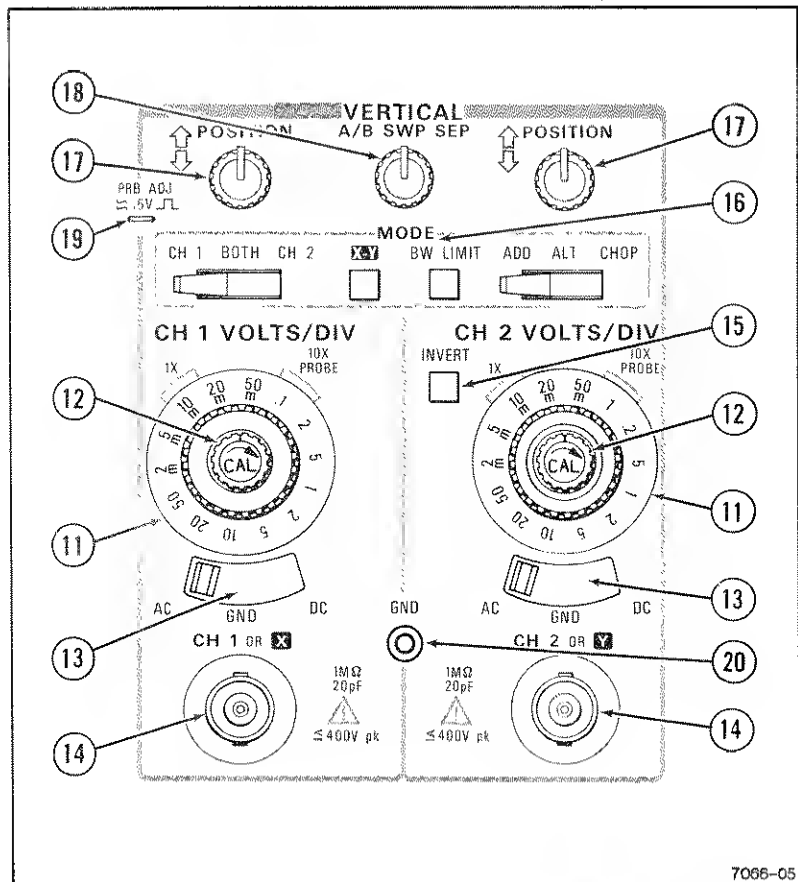

Figure 3-2. Vertical controls and connectors.
Refer to Figure 3-2 for location of items 11 through 20.